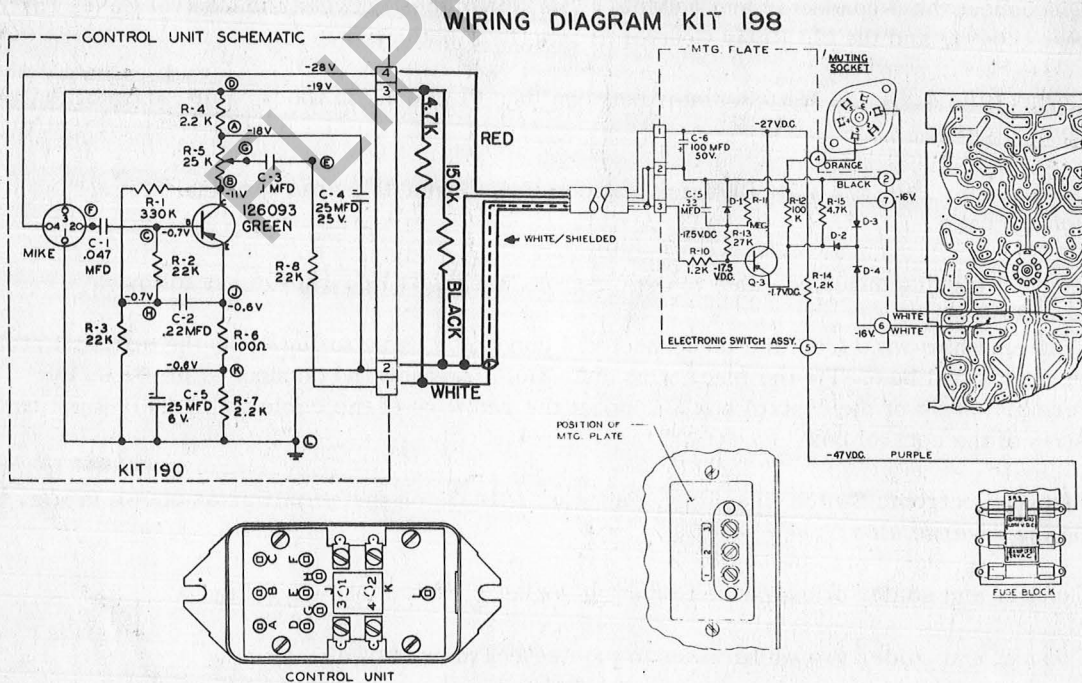

FIG. 3
6. Connect and solder orange wire to muting socket pin #3 as shown in Fig. 3.